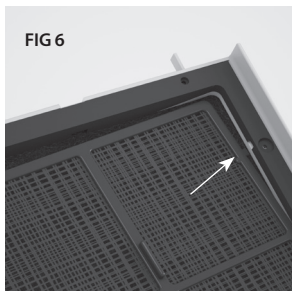

FIG 6
- Put the integrated pre-filter back into the front cover by locking all the side tabs to the front cover frame. Make sure all tabs are secured in the holes. (FIG 6)